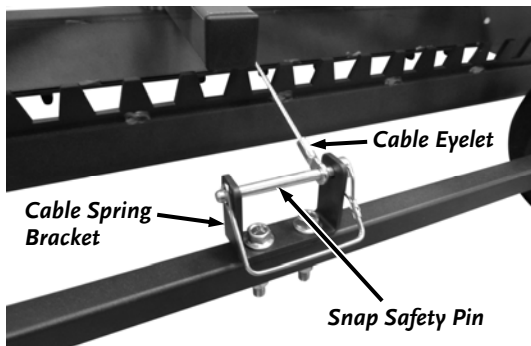

Figure 24
30. Adjust the front Jam Nut that is still on the Threaded Rod until the Eyelet at the eyelet end of the Cable can be secured to the Cable Spring Bracket with the 5/16" X 3" Snap Safety Pin (**Figure 24**).